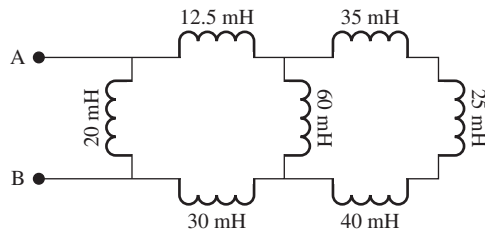

FIGURE P4.47 Inductor network.
- 4.47 (A) Find the equivalent inductance across points A and B in Figure P4.47.